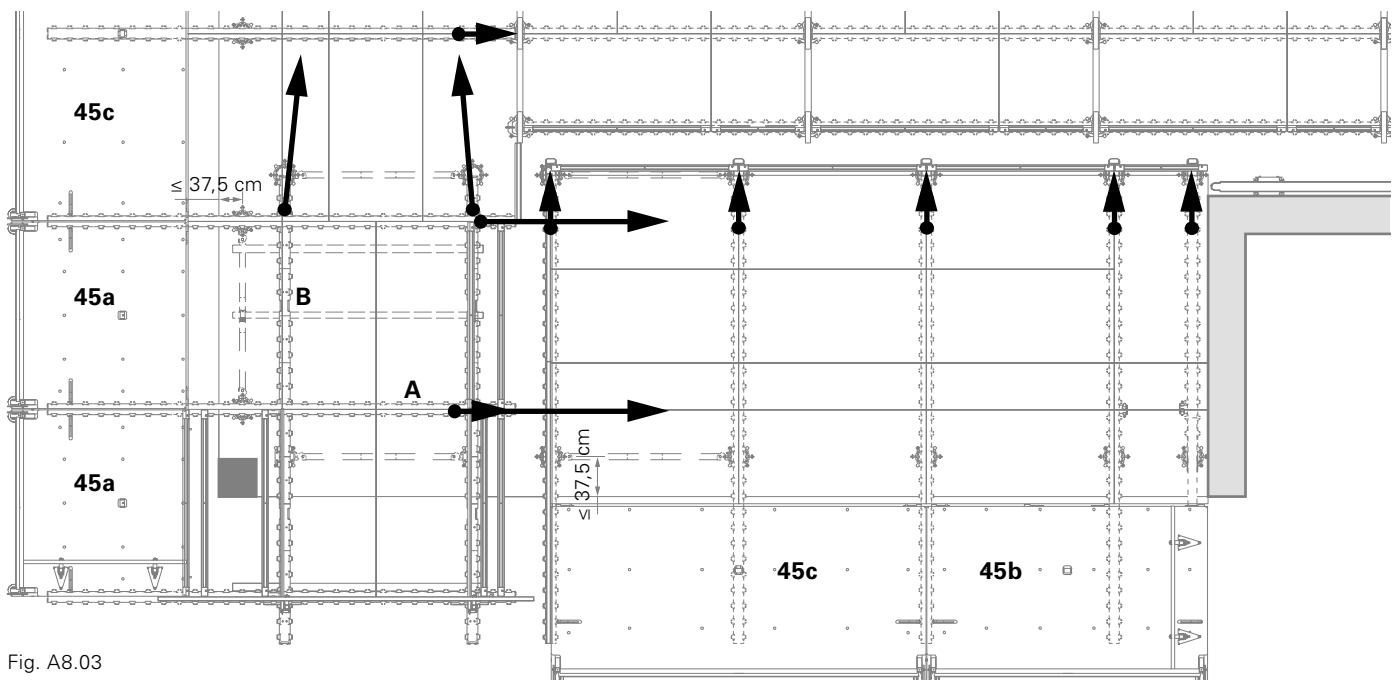

Fig. A8.03
**Fig. A8.03 shows only bracing from Load Case Tilting.**